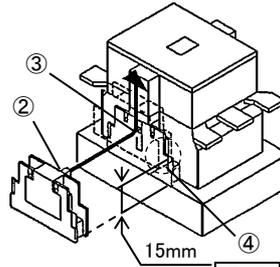

Fig.3
- 辅助触头单元的突起部②插入交流接触器的导向孔③，沿箭头方向滑动大约 15mm，把辅助触头单元嵌入交流接触器的槽④。(Fig. 3)
- Put the projection ② of auxiliary contact unit into the dent ③ of contactor. Slide the auxiliary contact unit into the dent about 15mm, and the auxiliary contact unit will be fit into the groove of contactor. (Fig. 3)